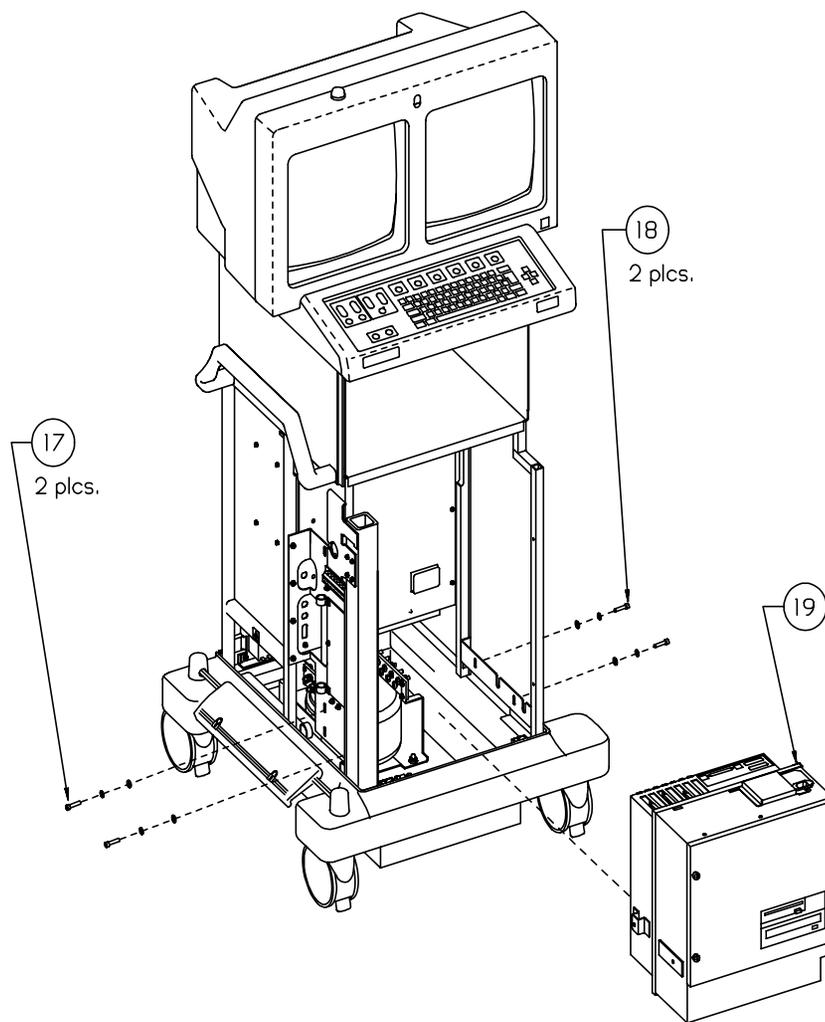

Figure 26
Note: Figure 26 shows the Computer Box Asm. with the 24V power supply removed.
17. Remove the 2 hex screws (and their washers) that attach the Computer Box to the Electronics Mount, located on the left, near the lower edge of the Electronics Mount. See Figure 26.
18. Remove the 2 hex screws (and their washers) that attach the Computer Box to the Computer Mounting Bracket, located on the lower-right side. See Figure 26.
19. Carefully remove the Computer Box from the Workstation. See Figure 26.